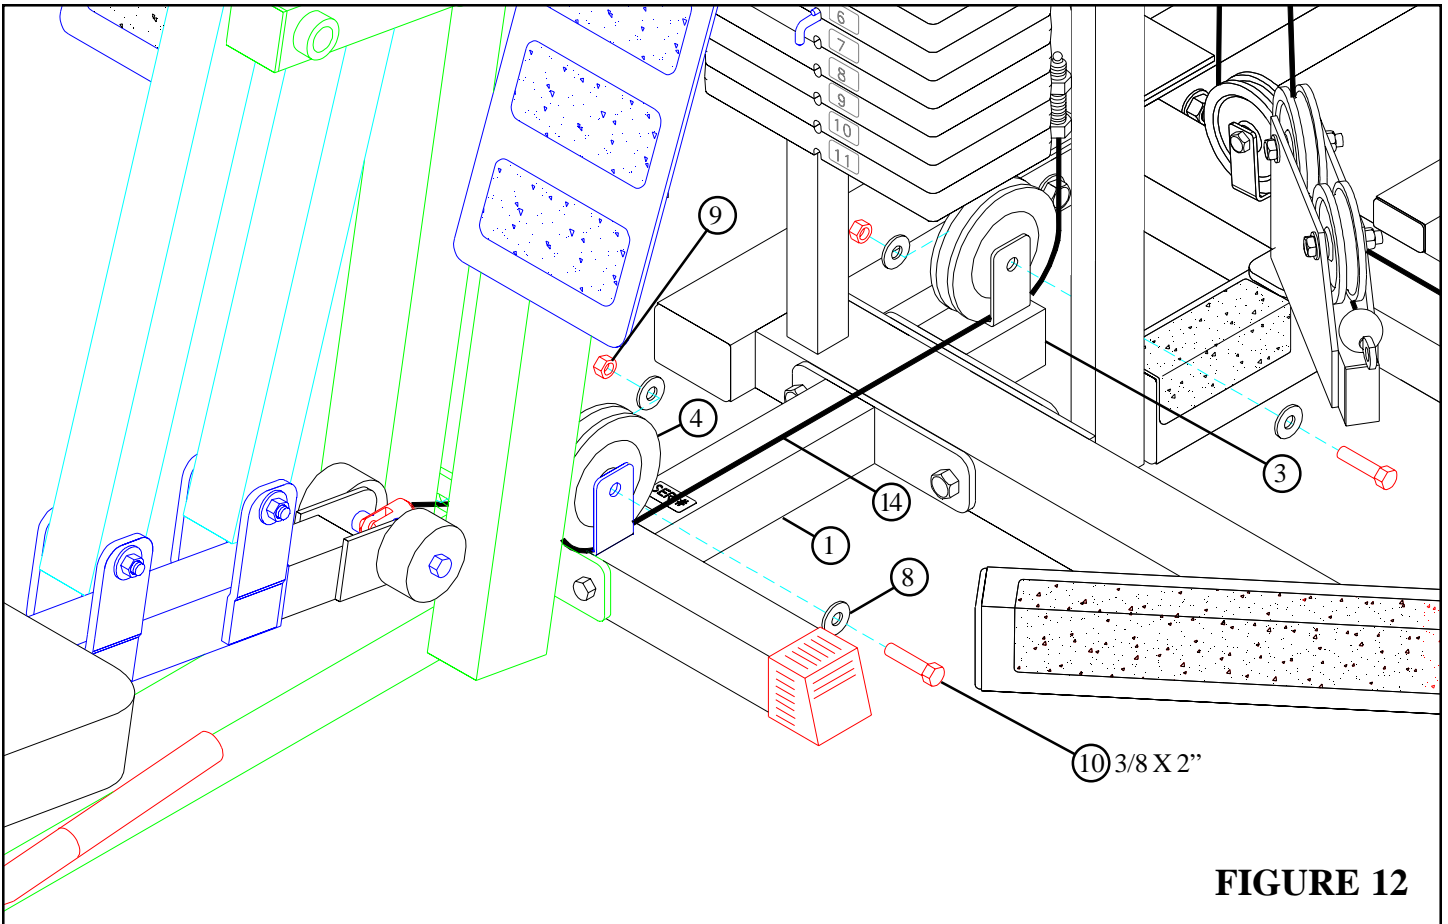

**FIGURE 11**
- Securely fasten the 832 LEG PRESS to the FRONT LEG (1) using two 1/2 X 3" BOLTS (11), two 1/2" WASHERS (15), and two 1/2" LOCK NUTS (16) as shown in FIGURE 11.